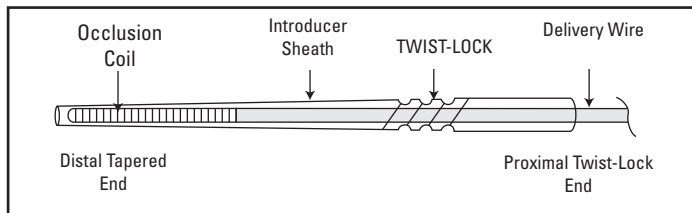

Figure 3. Introducer Sheath with Twist-Lock Mechanism
- Release the Interlock Fibered IDC Occlusion System inside its introducer sheath by gently pinching the sheath on both sides of the twist-lock mechanism and rotating proximal side counter-clockwise 2-3 rotations (Figure 3 and 4).